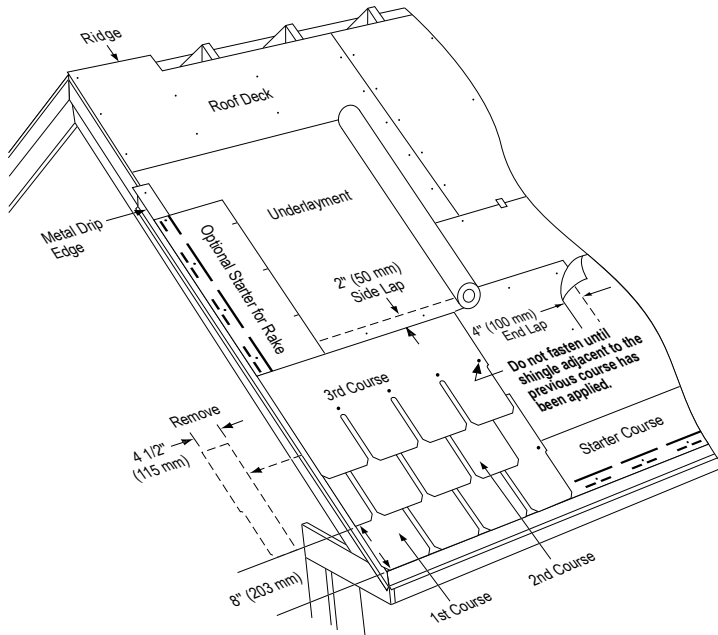

Figure 18-7: Applying the first 3 courses on a standard slope.
**1ST COURSE:** Apply a full Belmont shingle at the lower left corner of the roof, flush with the starter course left corner. Fasten with 5 nails (See Figure 18-7).
**2ND COURSE:** Cut 4-1/2" (115 mm) off the left end of a full shingle and apply remaining 31-1/2" (800 mm) piece over left edge of 1st course. Fasten with 5 nails and ensure 8" (203 mm) exposure (See Figure 18-7).
**SUCCEEDING COURSES:** Begin application of the 3rd course with a full shingle. Fasten with 4 nails, leaving the right end unfastened until later (See Figure 18-7).